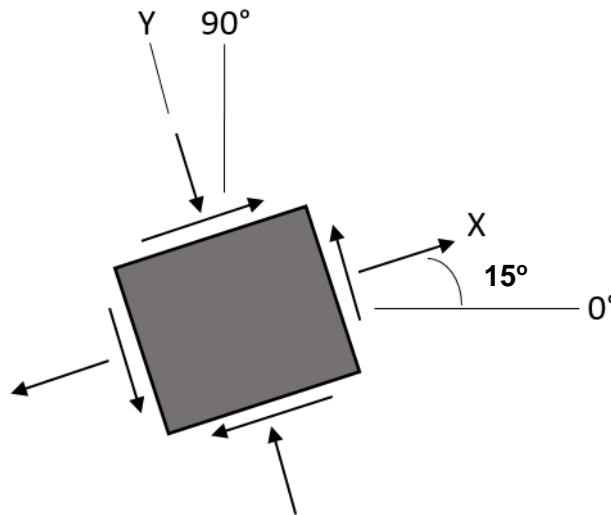

Figure 8
5. Determine the equivalent state of stress on an element at the same point for the following cases with respect to the element shown in **Figure 8** using Mohr's circle. Nominal stress in x and y directions are 80 N/mm^2 and 160 N/mm^2 , respectively, while shear stress is 20 N/mm^2 .